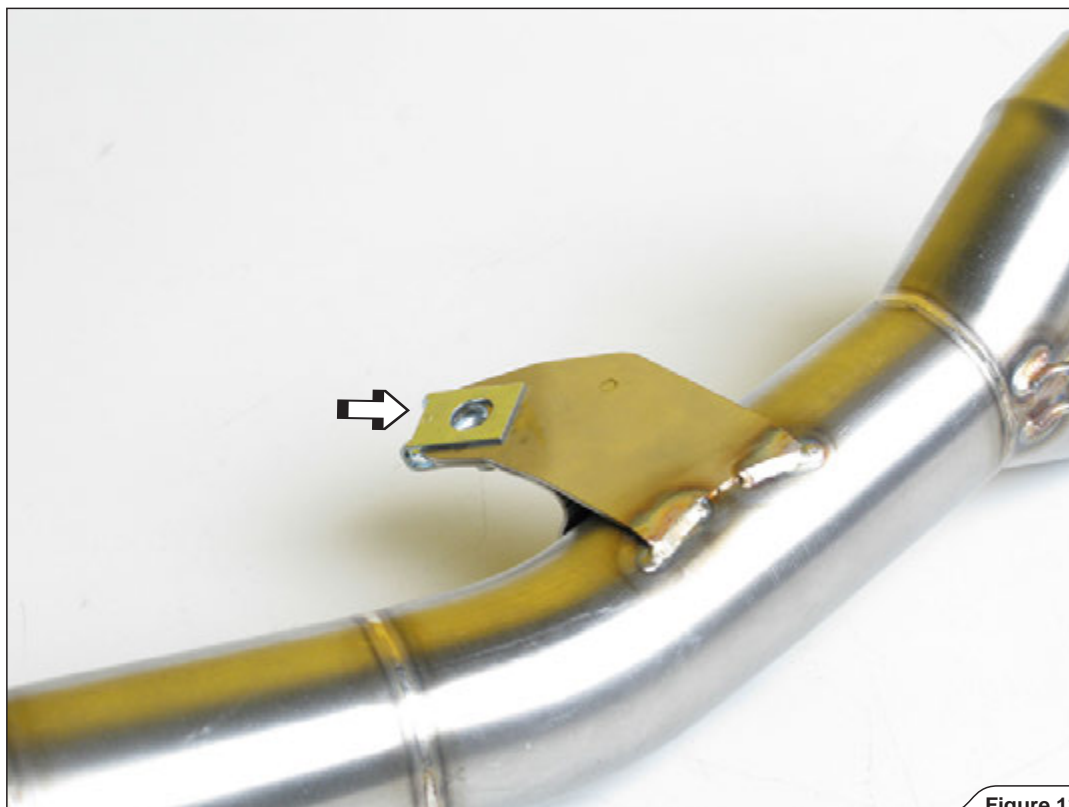

Figure 13
5. **For Akrapovič Racing only:** attach the Akrapovič press-on nut onto the link pipe bracket as shown (**Figure 13**).